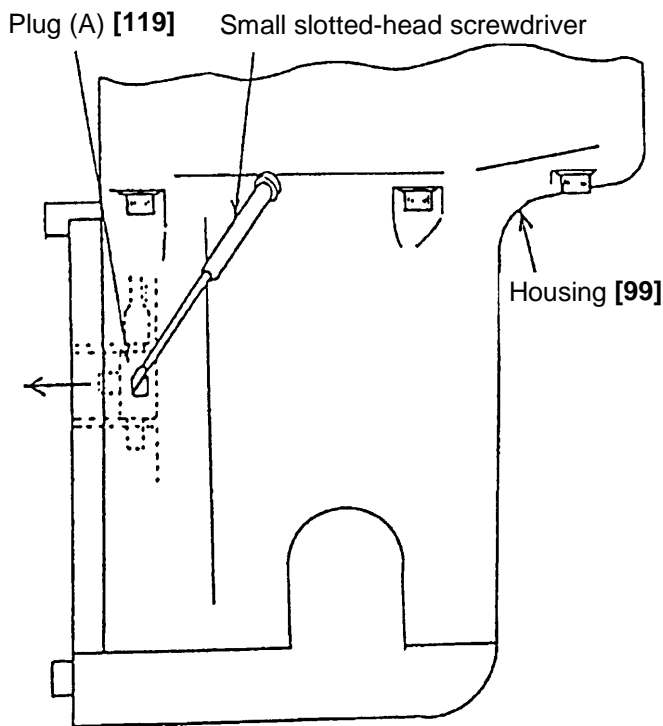

Fig. 17
Then, as indicated in Fig. 17, insert a small slotted-head screwdriver into the square hole of the Housing and pull out the Plug (A) Ass'y [119] in the direction indicated by the arrow while pushing on the projection with the tip of the screwdriver.